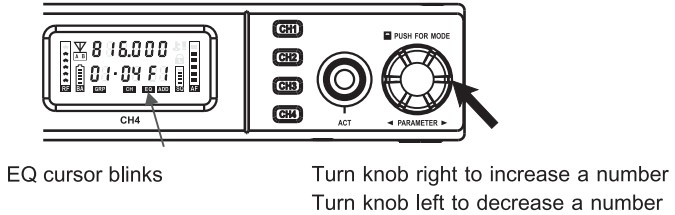

Fig. 18
- (3) Under manual setting, press knob again exits the manual setting or system reboot, system will automatically switch back to Automatic switching antenna setting.
- (4) Antenna A or B setting is provided only for testing and analyzing RF strength of either antenna side during system installation. We highly recommend restoring the setting back to Automatic switching once done with testing.
(D) EQUALIZER Setting. Fig. 18: